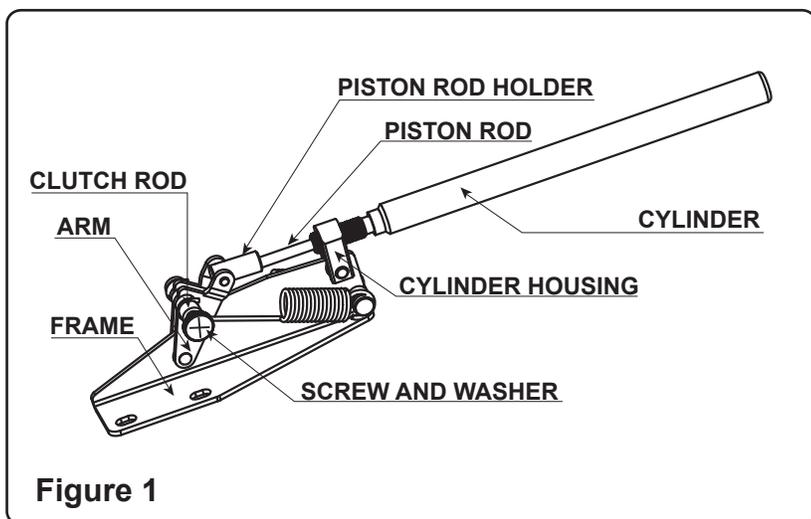
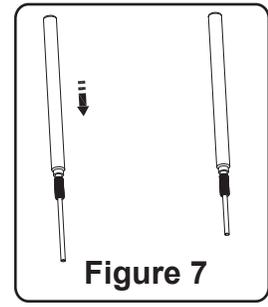
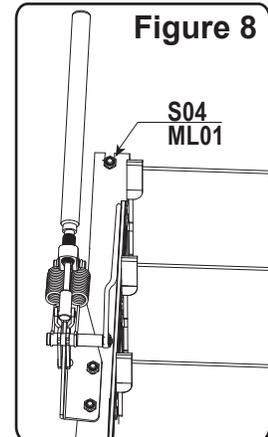
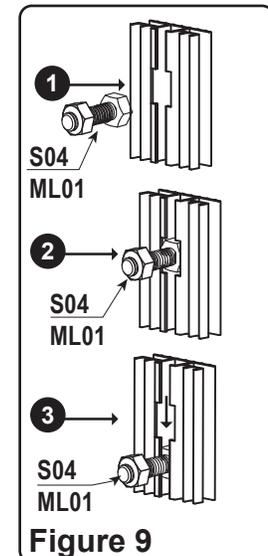

Figure 1
Figure 7
Figure 8
Figure 9
7. Place the **Louver Window Frame** into your greenhouse wall, use the prethreaded **S04/ML01** nut and bolt combo to attach the louver into place in the extrusion, then tighten the nut and bolt combo to lock into place. See **Figure 8 and Figure 9**.
8. Press the **Piston Rod** into the cooled **Cylinder**, see **Figure 7**. Screw the **Cylinder** into the **Cylinder Housing** and make sure the **Piston Rod** gets into the **Piston Rod Holder**. See **Figure 1**. Screw into the **Cylinder** until the threads are the same length on both sides of the **Cylinder Housing**. See **Figure 8** for final assembly view.